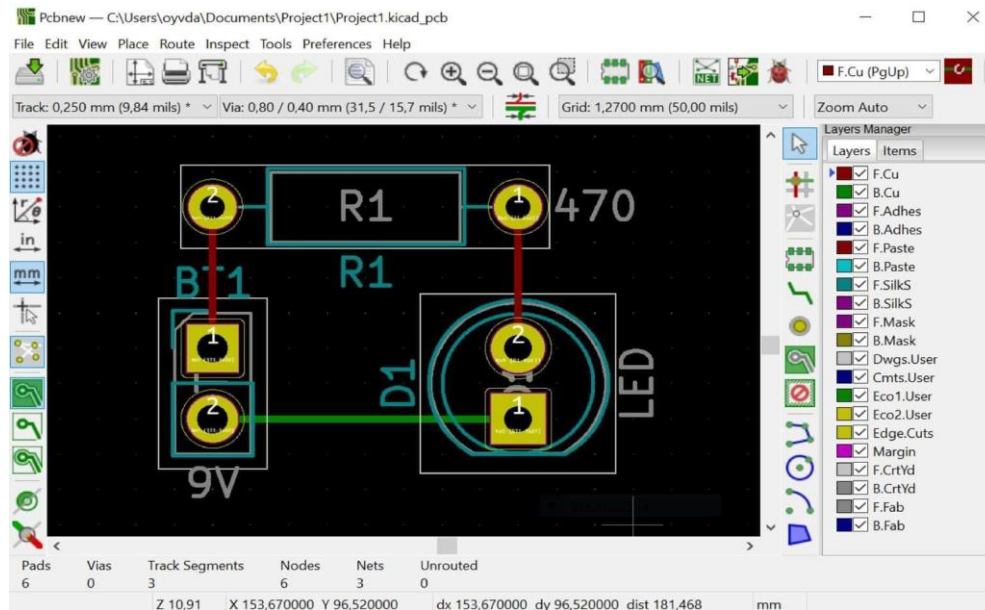

Figure 12.28 The board with all its tracks routed
- Click on the *Add graphic polygon* button on the toolbar, as shown in Figure 12.28